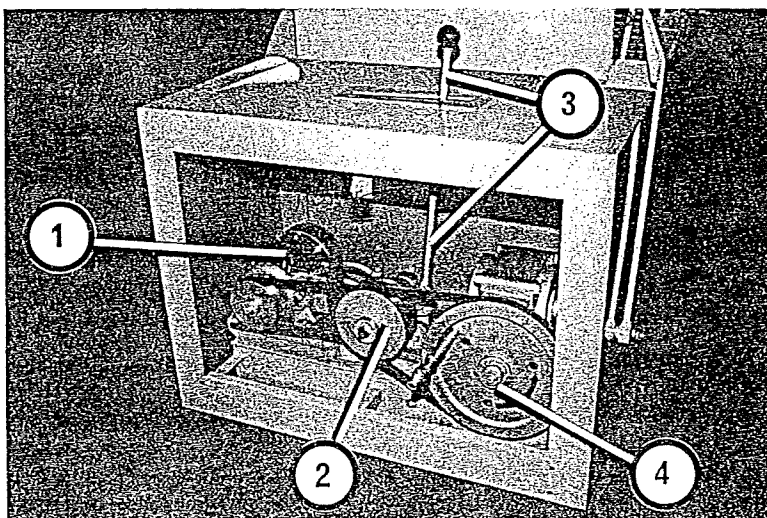

Fig.5: Main drive (hand crank fitted)
9.4 Sliding Clutch (see fig.5, page 091)